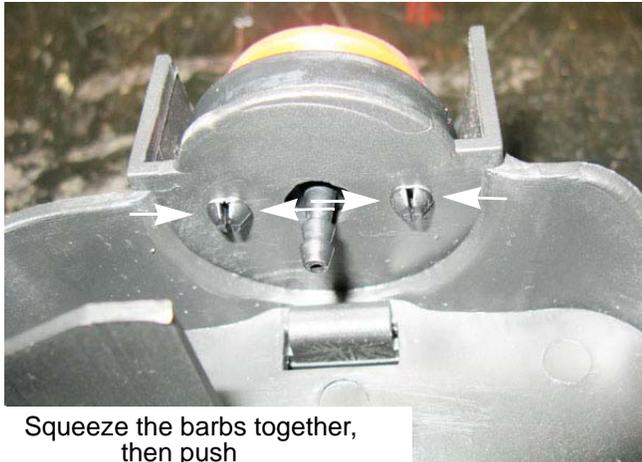

Figure 4.42
3. Squeeze the two sets of tabs together and push the primer out of the housing. See Figure 4.42.